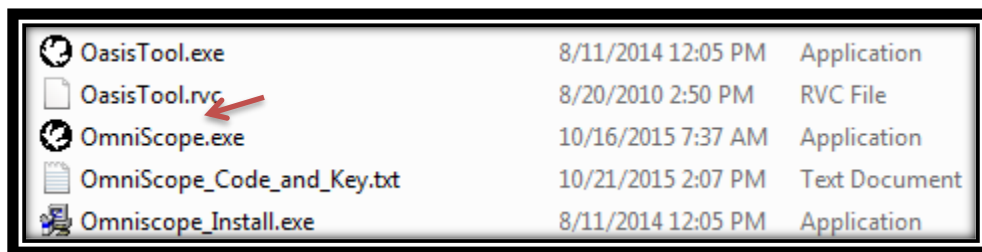

FIG. 5-1
2. Launch OmniScope.exe Refer to Fig 5-1